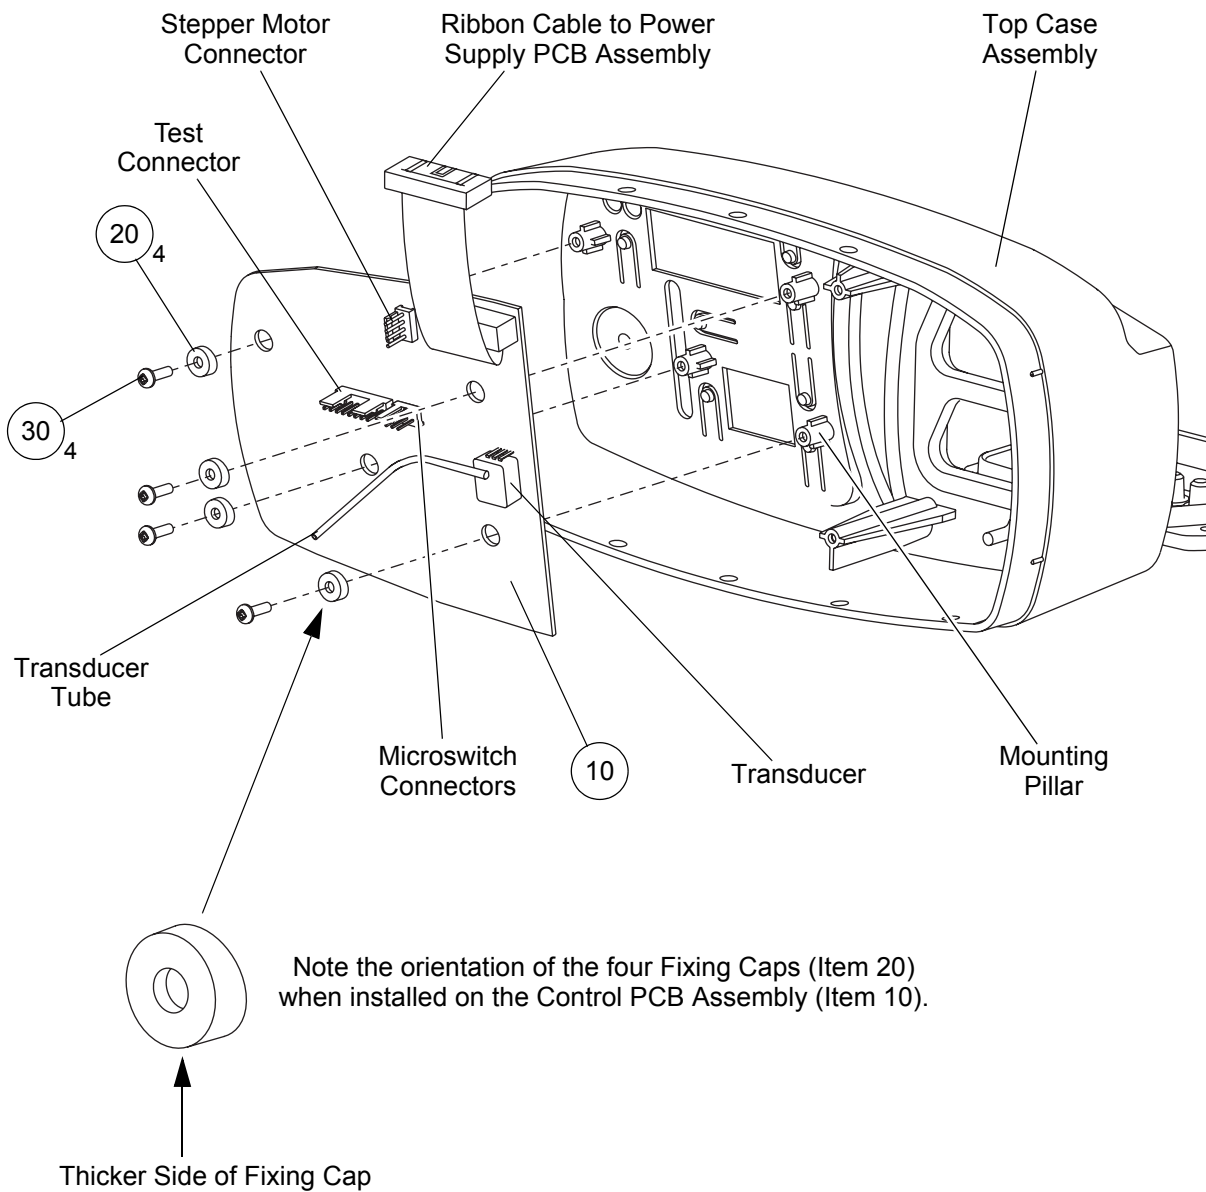

Figure 26 - Replacing the Control PCB Assembly
18.2 On the top case assembly, disconnect the following connectors from the control PCB assembly (Fig 26, Item 10):
18.3 Pull the transducer tube off the transducer on the control PCB assembly (refer to Figure 26).
18.4 Remove the four pozi screws (Fig 26, Item 30) and four fixing caps (Fig 26, Item 20), and remove the control PCB assembly from the top case assembly.
19.1 Put the control PCB assembly (Fig 26, Item 10) on to the four mounting pillars in the top case assembly.
19.2 Install the four fixing caps (Fig 26, Item 20) over the ends of the mounting pillars.
Note: *Asymmetric fixing caps are used because the control PCB is not mounted flat in the top case assembly. Make sure the orientation of the fixing caps is correct (refer to Figure 26).*
19.3 Install the four pozi screws (Fig 26, Item 30) through the fixing caps to secure the control PCB assembly.
19.4 Push the transducer tube onto the top outlet of the transducer on the control PCB assembly (refer to Figure 26).
19.5 Connect the following connectors onto the control PCB assembly (refer to Figure 26):